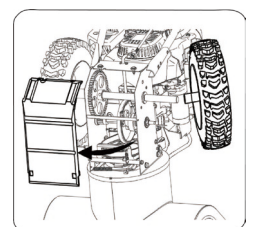

Figure 31
b. Remove the right-hand wheel by removing the screw and bell washer which secure it to the axle. See Figure 31.